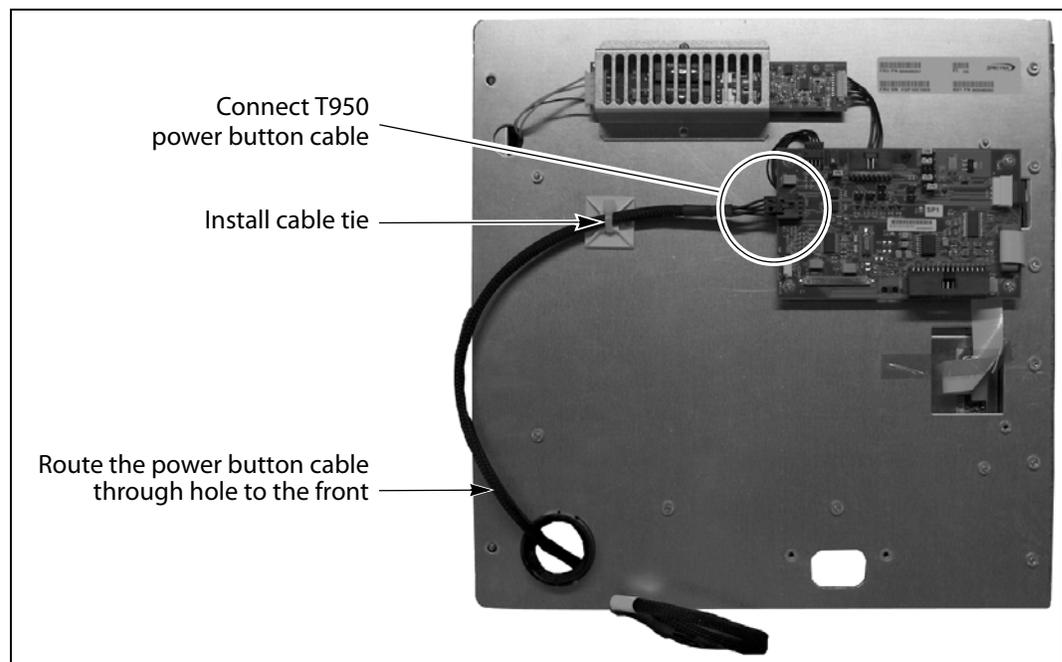

Figure 25 Connect the T950 power cable to the LCD panel.
- c. Use a cable tie holder and cable tie to secure the power button cable to the back of the LCD panel as shown in Figure 25.